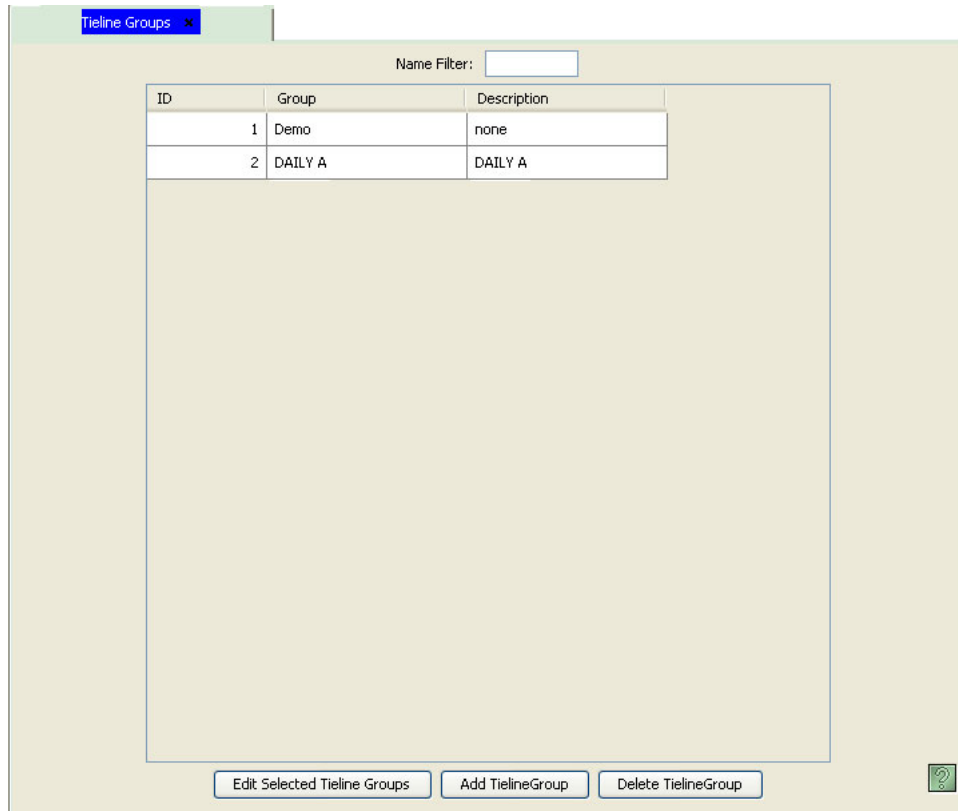

Figure 16-31. Tieline Group Page
- 2 From the Navigation area, select the 'Configuration' pane and then 'Tieline Groups'. The 'Tieline Groups' page displays, as shown in Figure 16-31. All tieline groups currently defined in the system are listed.